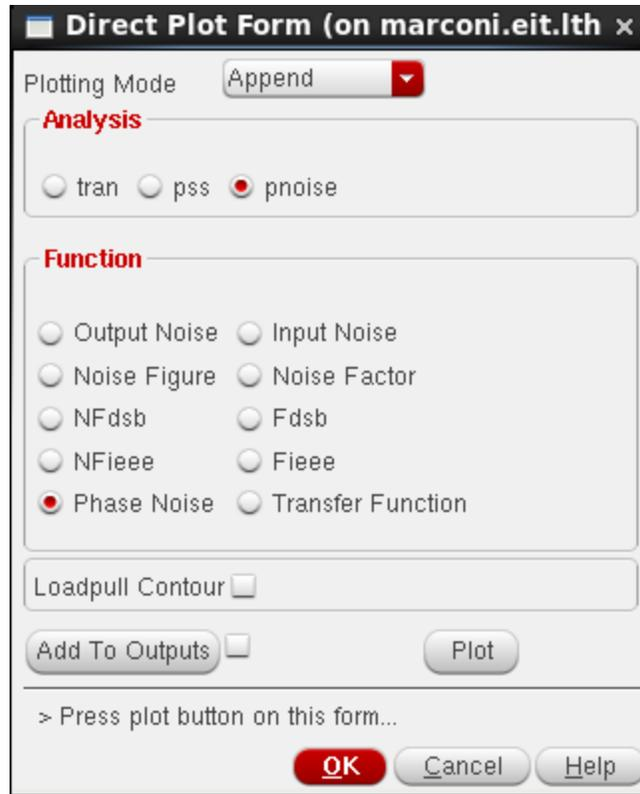

Fig. 7
- From Results/Direct Plot/pnoise, plot “Phase Noise” in dBc/Hz (Fig. 7). Give an estimate of the flicker corner frequency.